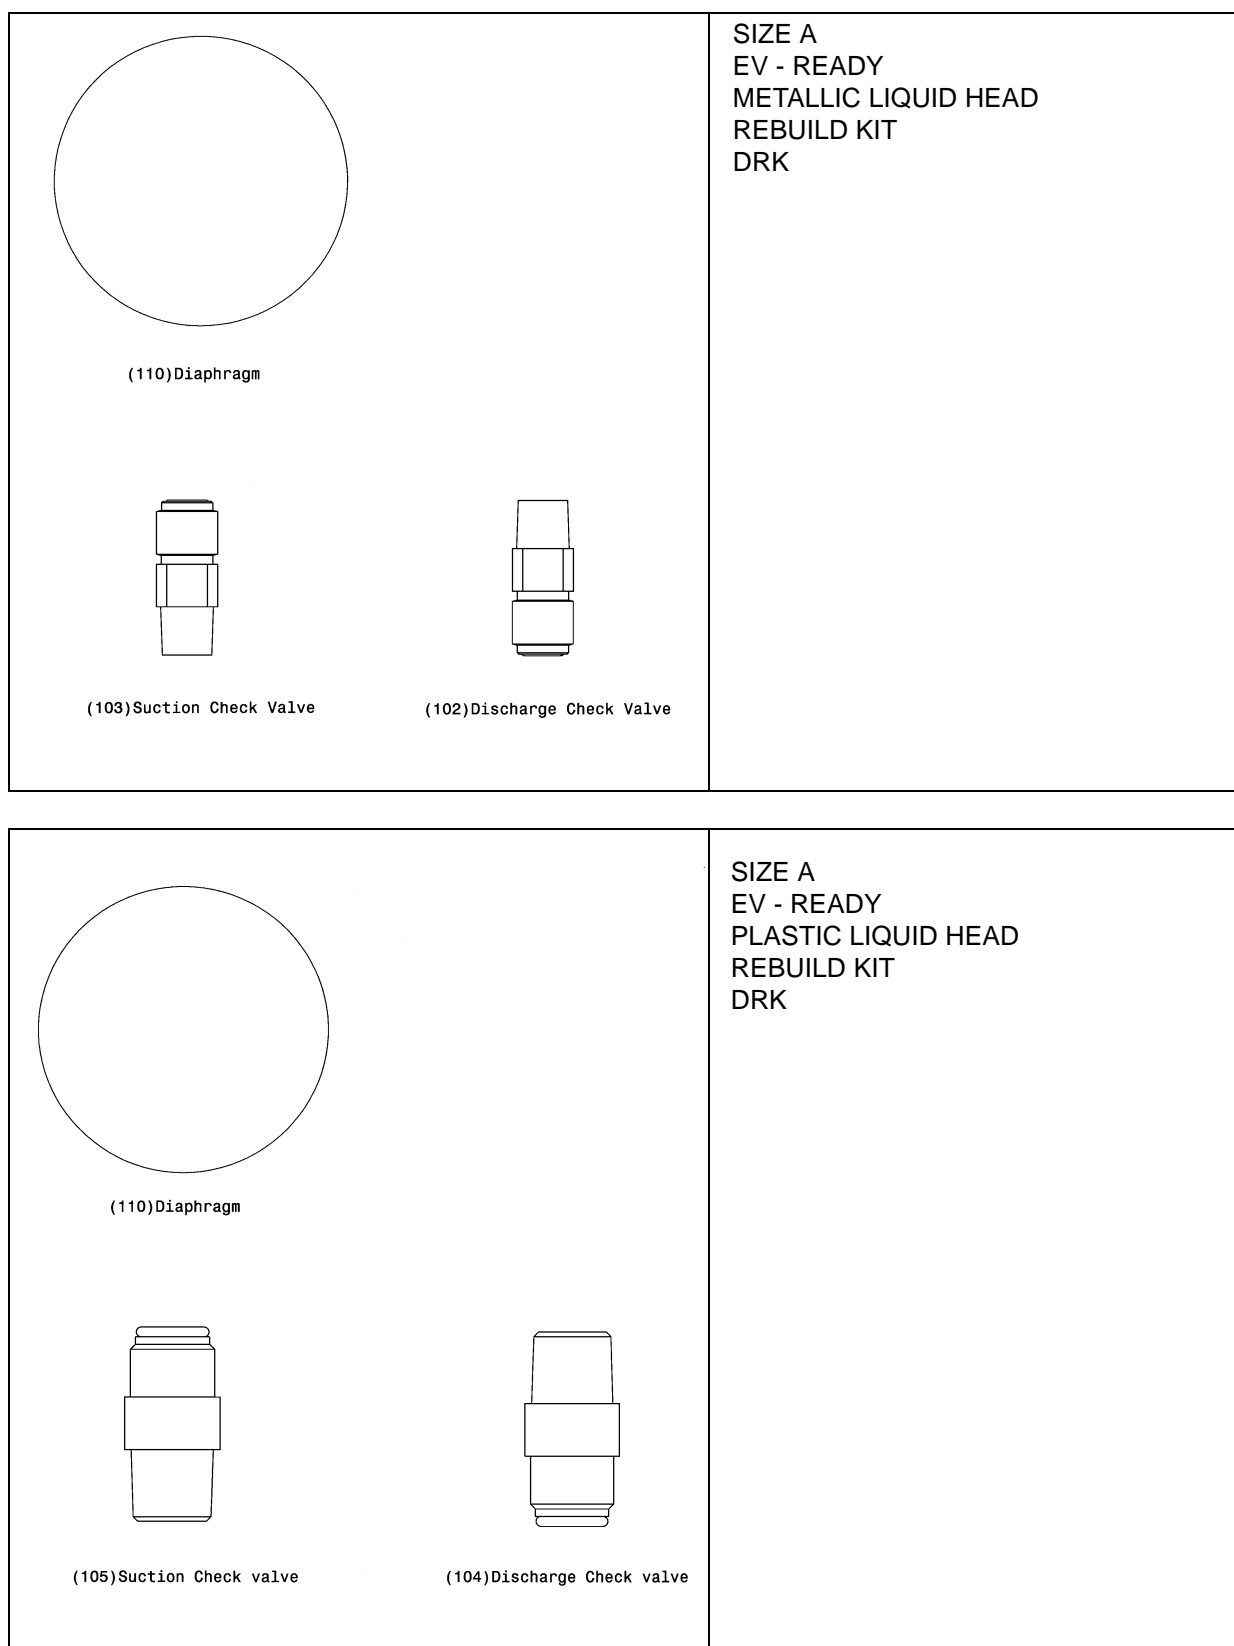

Figure 26. Metallic/Plastic Rebuild Kit, Size A.
6.5 METALLIC/PLASTIC REBUILD KIT, SIZE A (FIGURE 26)